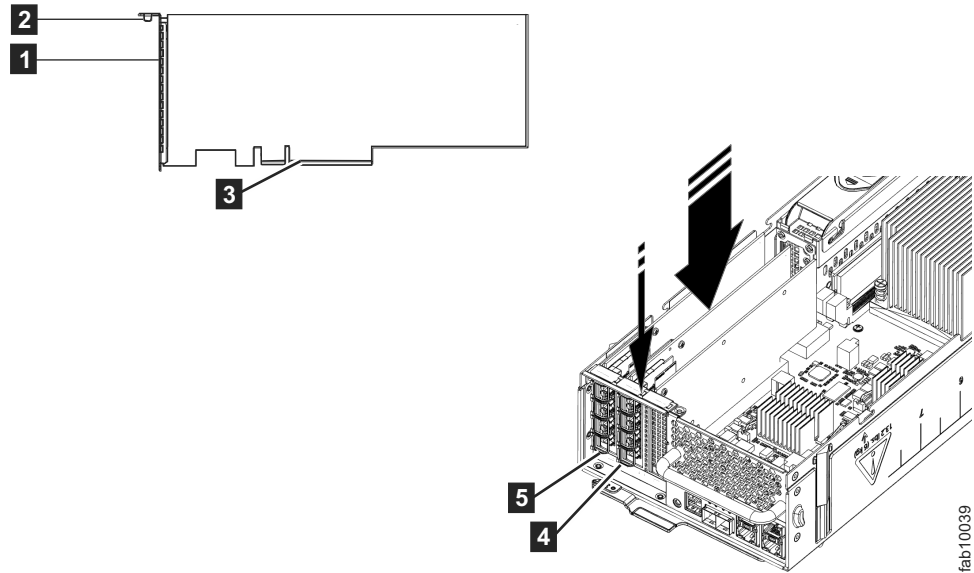

Figure 116. Installing the host interface card
6. Remove the replacement host interface card **1** from its package. Figure 116 on page 369 displays installing the host interface card.